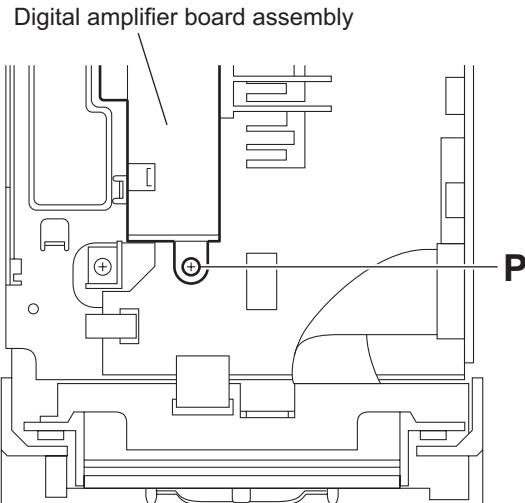

Fig.15
(See Figs.15 and 16)
- (1) From the top side of the main body, remove the screw **P** attaching the digital amplifier board assembly. (See Fig.15.)